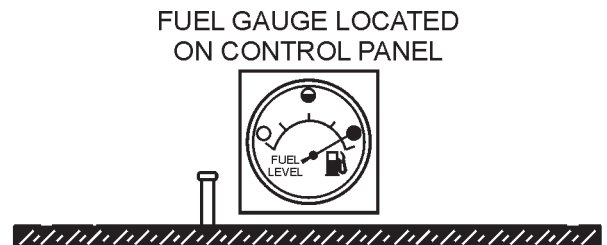

Figure 31. Full Fuel Tank
3. **NEVER overfill fuel tank** — It is important to read the fuel gauge when filling trailer fuel tank. **DO NOT** wait for fuel to rise in filler neck (Figure 31).